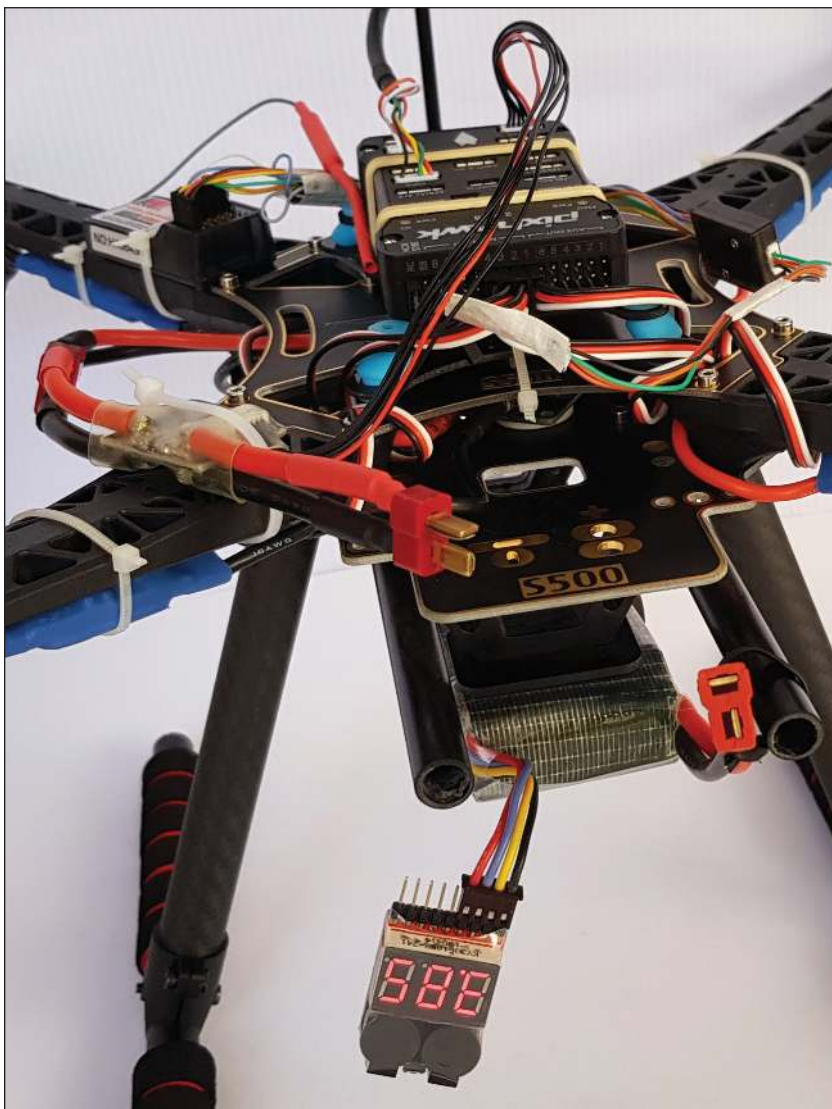

FIGURE 5
Step 4. Power module, battery and alarm. The power module connected to the flight controller and the PDB, as well as the LiPo battery in place with its low voltage alarm, are shown in **Figure 5**. The connection between the flight controller, power module, battery and propulsion system are illustrated clearly in Figure 1, so go back to this at any time to get a more detailed view of other connections.